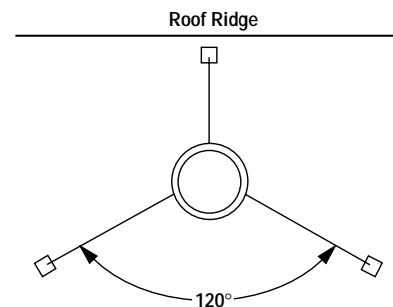

Figure 33
Note: If chimney extends more than 8' above roof surface, guy wires are also recommended. Use three (3) guy wires, attach to locking band assembly, extend and secure to roof in a triangular pattern (*Figure 33*). Guy wires are not supplied by the manufacturer.